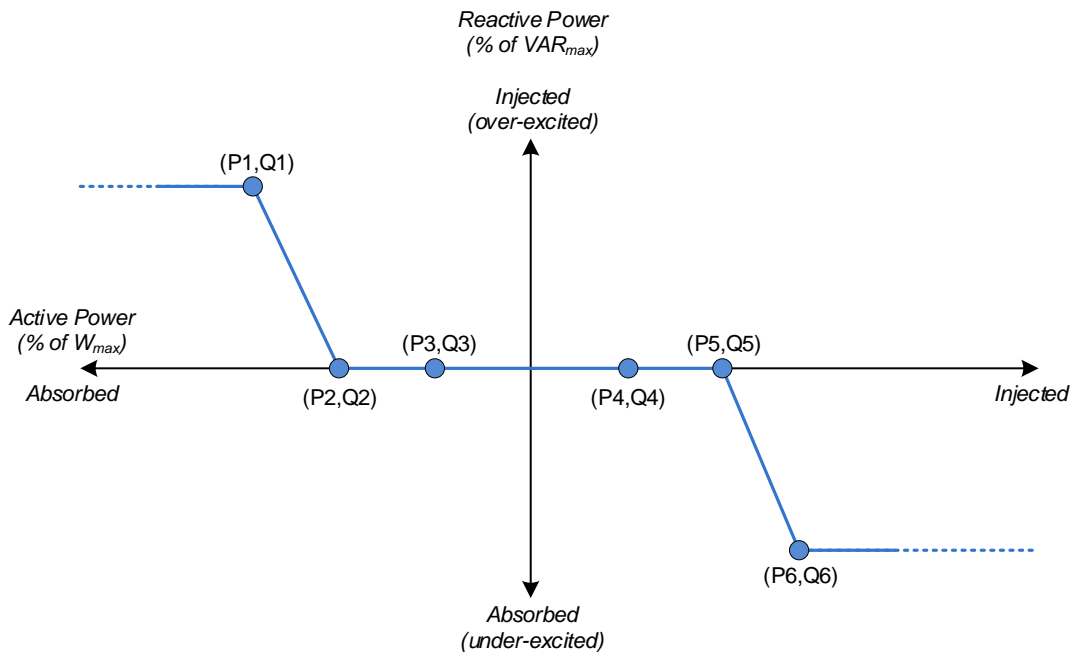

Figure 24 - Watt/VAR Configuration
Figure 24 illustrates a basic Watt-VAR curve. At the endpoints, to the left of the first active power point and to the right of the last active power point, the reactive power level remains constant (i.e. flat lines). The active power points (P) are defined as a percentage of the maximum active power (W_{max} , **REG 40266**). By default, the reactive power points (Q) are defined as a percentage of the maximum reactive power (VAR_{max} , **REG 40272**). However, the scaling can be changed to be a percentage of the maximum active power (W_{max} , **REG 40266**) or the maximum apparent power (VA_{max} , **REG 40271**) using the *VAR Dependent Reference* register in the Watt-VAR curve settings. When the Watt-VAR curve is enabled (**REG 41630**), the PCS’s active power output is used to determine the reactive power output specified by this curve. When the result is a non-zero reactive power command, the **Watt-VAR Active** warning bit will be asserted in **REG 41756 – PCS Warnings**.